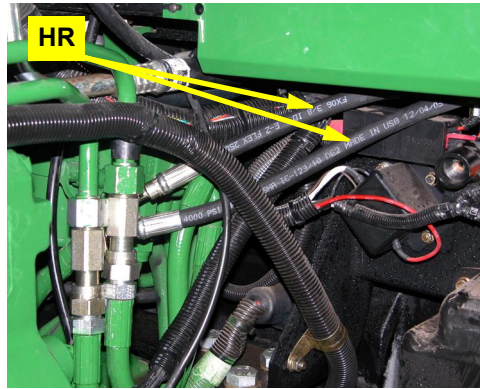

Figure 4a: Routing the steering output hoses from the run-tees to the steering block
- a. Route the hydraulic steering output hoses **HR** from the run-tees, under the tractor cab (Figure 4a), then along the left side of the tractor and back to the hydraulic steering block.